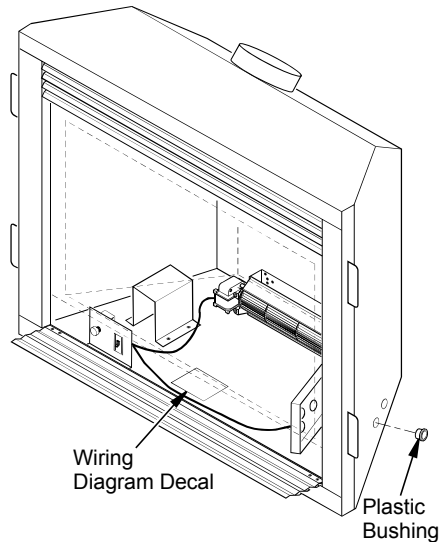

Figure 28 - Installing Plastic Bushing for Power Cord and Locating Wiring Diagram Decal
a. **If your fireplace system is installed as a freestanding unit with an accessory mantel,** determine whether the power cord will exit the left side or the right side of the firebox. Install one plastic bushing (provided) into the 1 1/2" hole in the outer casing through which the power cord will exit. Install the second plastic bushing (provided) into the floor support bracket if exiting through the right side (see Figure 28, page 14). Route power cord through (both) plastic bushing(s) and plug the power cord into a properly grounded 3-prong wall receptacle near the firebox.
12. Peel off the backing paper and stick the supplied wiring diagram decal on the outer casing bottom approximately 3" to the right of the blower speed control (Figure 28).